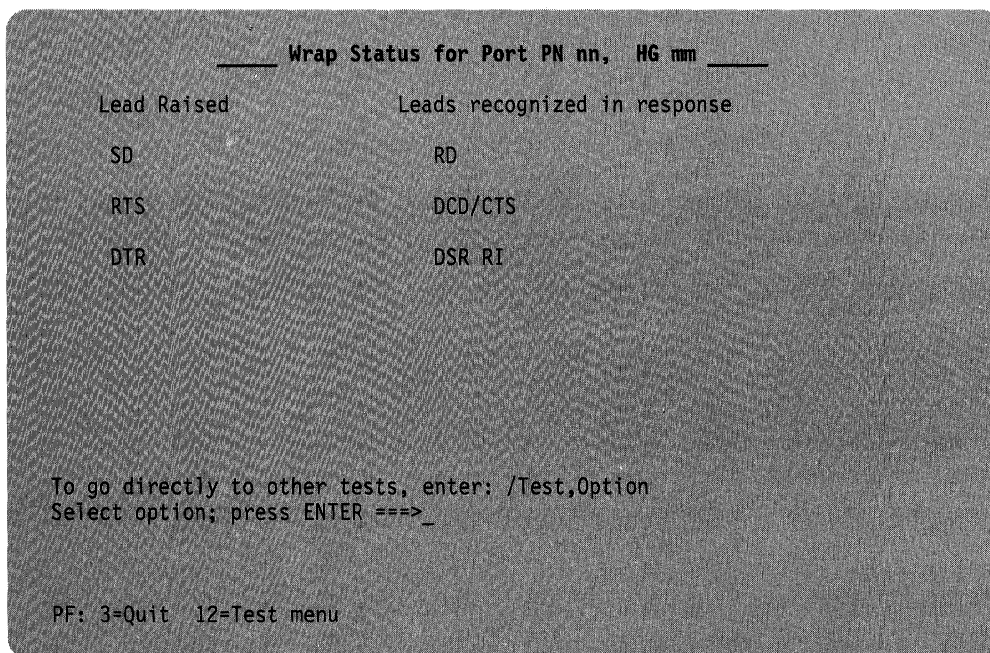

Figure 4-61. Example of an AEA Cable Test Report Panel.
1. Invoke /12,7,PN,HG with the AEA cable disconnected from the modem or device. The leads recognized in response to each lead raised shows shorts that exist in the cable. These shorts can be caused by damage to the cable or by intentionally installed jumpers. See Figure 4-61.
2. Invoke /12,7,PN,HG with the AEA cable wrap plug (25-pin, P/N 61X4602) attached to the end of the AEA cable in place of the modem or direct connect device. The leads recognized in response to this test should be those shown in Figure 4-61 plus any additional ones discovered by running this test without the wrap plug. See Figure 4-61. If the expected leads recognized do not appear in the list, then there are missing, broken, or disconnected leads in the cable. (These can be intentional or the result of a damaged cable.)